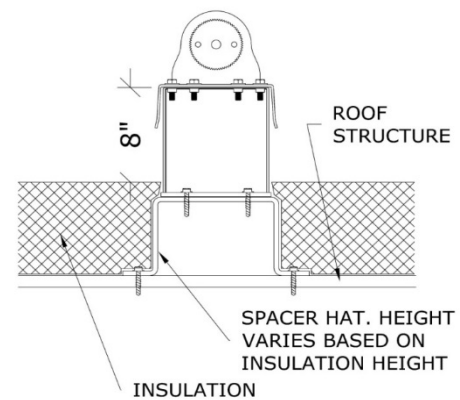

Figure 8
- **Steel Spacer Hat:** Similar to using a wood block as outlined above, a steel spacer may be used. An effective method is to use a steel plate bent into the shape of a hat section as shown in Figure 8. The spacer hat must be appropriately sized and attached to the structure.